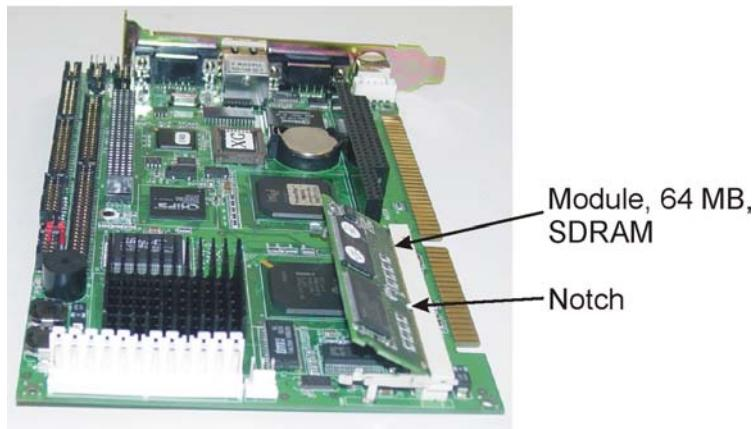

Figure 5-13. Single Board Computer
1. Observe the orientation of SDRAM module (499-4000-374), SBC (916-5001-494), and position of the notch as shown in Figure 5-13.